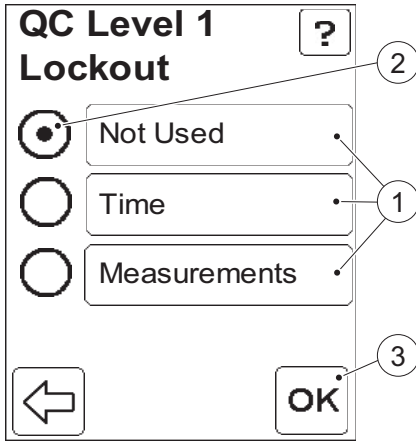

FIGURE 3-68
- Level 1 (see FIGURE 3-68)
If Measurements was selected in the QC lockout menu (see *FIGURE 3-68*), the setting for the QC lockout based on the number of patient or STAT test measurements performed is displayed.